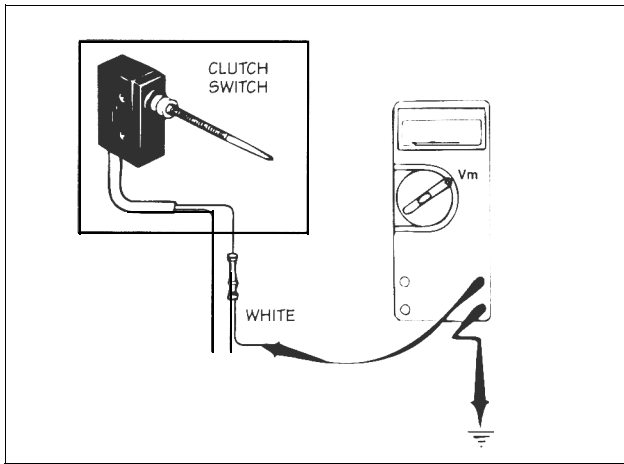

FIG. 1.1.14
**Correction:** Connect the negative (-) probe to the common ground point and the positive (+) probe to the white lead in the main harness (Fig. 1.1.14). Energize the system. With the clutch engaged (pedal up), VOM should cause a reading of 5 volts. If these readings are not obtained, check adjustment of clutch switch. Switch should actuate in the top travel portion of the pedal. Readjust if necessary.